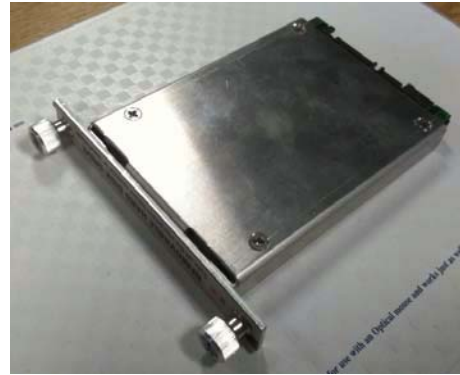

Figure 2
5. Once removed from the instrument the Removable HDD Carrier should be placed on a flat surface with the label downwards. (See Figure 2)
6. Remove 4 screws at the corners of the hard drive carrier marked A in Figure 2. Save and retain these screws.